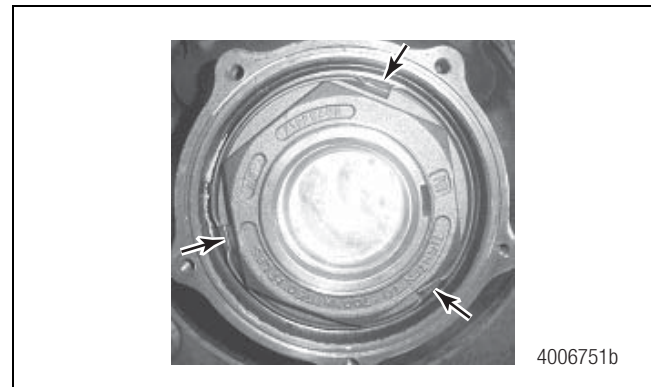
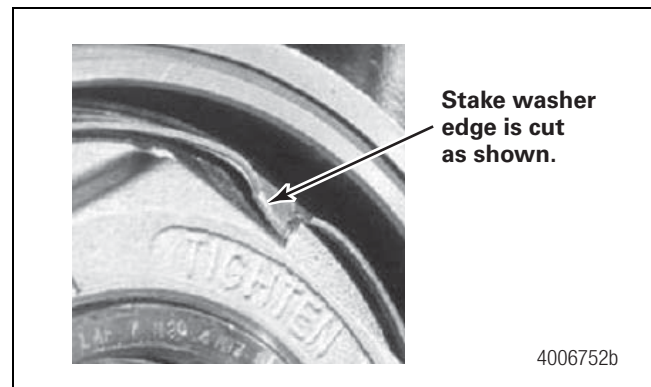

Figure 4.19
Figure 4.20
9. Use a hammer and staking tool to stake the stake washer to the spindle nut in **three** positions. Figure 4.19 and Figure 4.20.